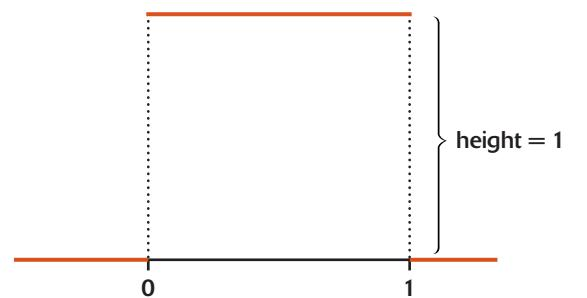

FIGURE 12.21 Density curve for the uniform distribution on 0 to 1.
- 12.47 A non-Normal distribution. Suppose that a quality characteristic has the Uniform distribution on 0 to 1. Figure 12.21 shows the density curve. You can see that the process mean (the balance point of the density curve) is $\mu = 1/2$. The standard deviation turns out to be $\sigma = 1/12$. Suppose also that LSL = 1/4 and USL = 3/4.